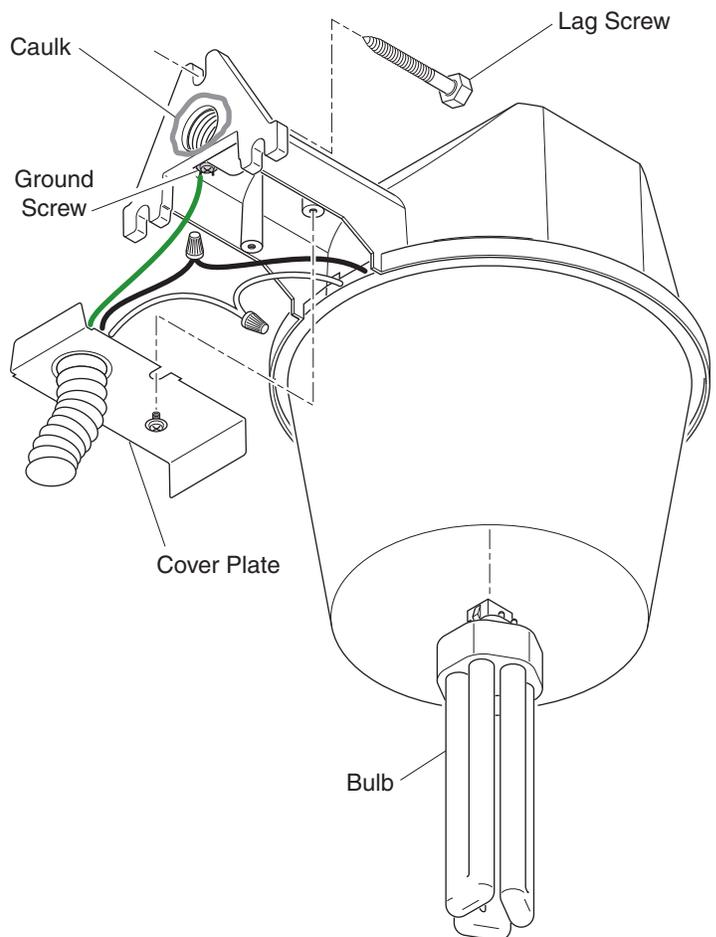

Figure 2
6. Remove the two screws attaching the fixture cover plate to the fixture (see Figure 2).
7. Route the service wires from the conduit through the fixture cover plate (see Figure 2).
1. Connect the fixture wires to the service wires as shown in Figure 2 (**black to black** and **white to white**).
2. This fixture **must** be connected to ground. Secure the service ground wire under the head of the green ground screw (see Figure 2).
3. Install the cover plate. Secure with the two screws provided (see Figure 2).